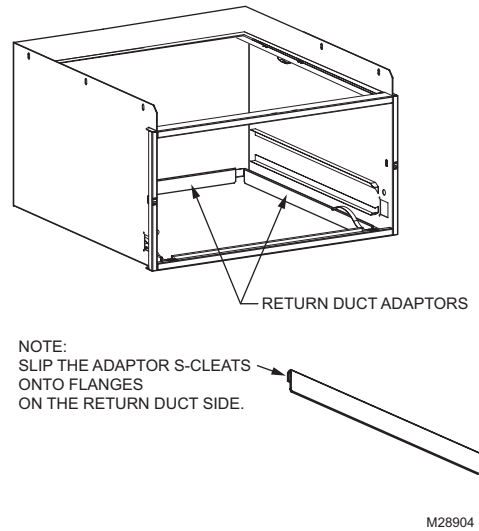

Fig. 6. Use of Return Duct Adapters for 1620/2020/2520.
- e. Use return duct adapters provided to attach return ductwork (see Fig. 6).